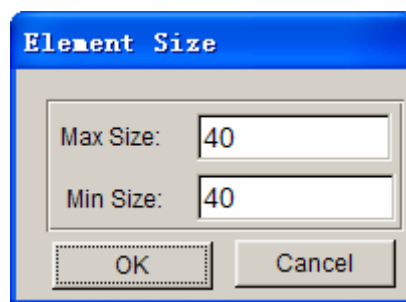

Figure 30 Element Size dialog box
7. Input the value of the **Max Size** and **Min Size: 40**, as illustrated in Figure 30.